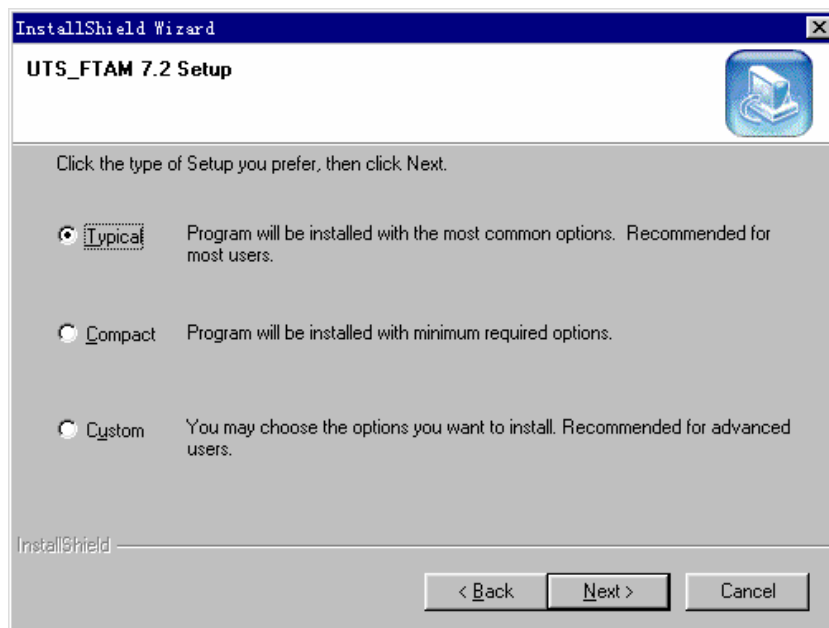

Figure 2-59 Selecting setup type
- 3) Retain the default destination folder. Click <Next>. You are prompted to select the type of setup, as shown in Figure 2-59.